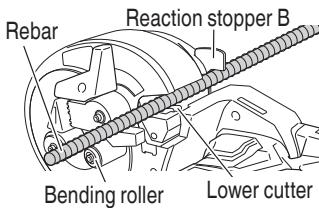

Fig. 35
- (2) Set the rebar to be cut above the lower cutter (Fig. 35)